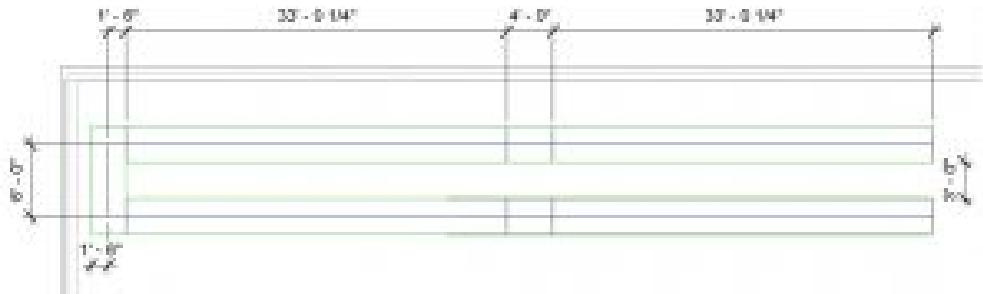

Figure 4.17 Ramp dimensions modified and shown in plan view
4. Use the witness lines to change dimensions as shown in Figure 4.17